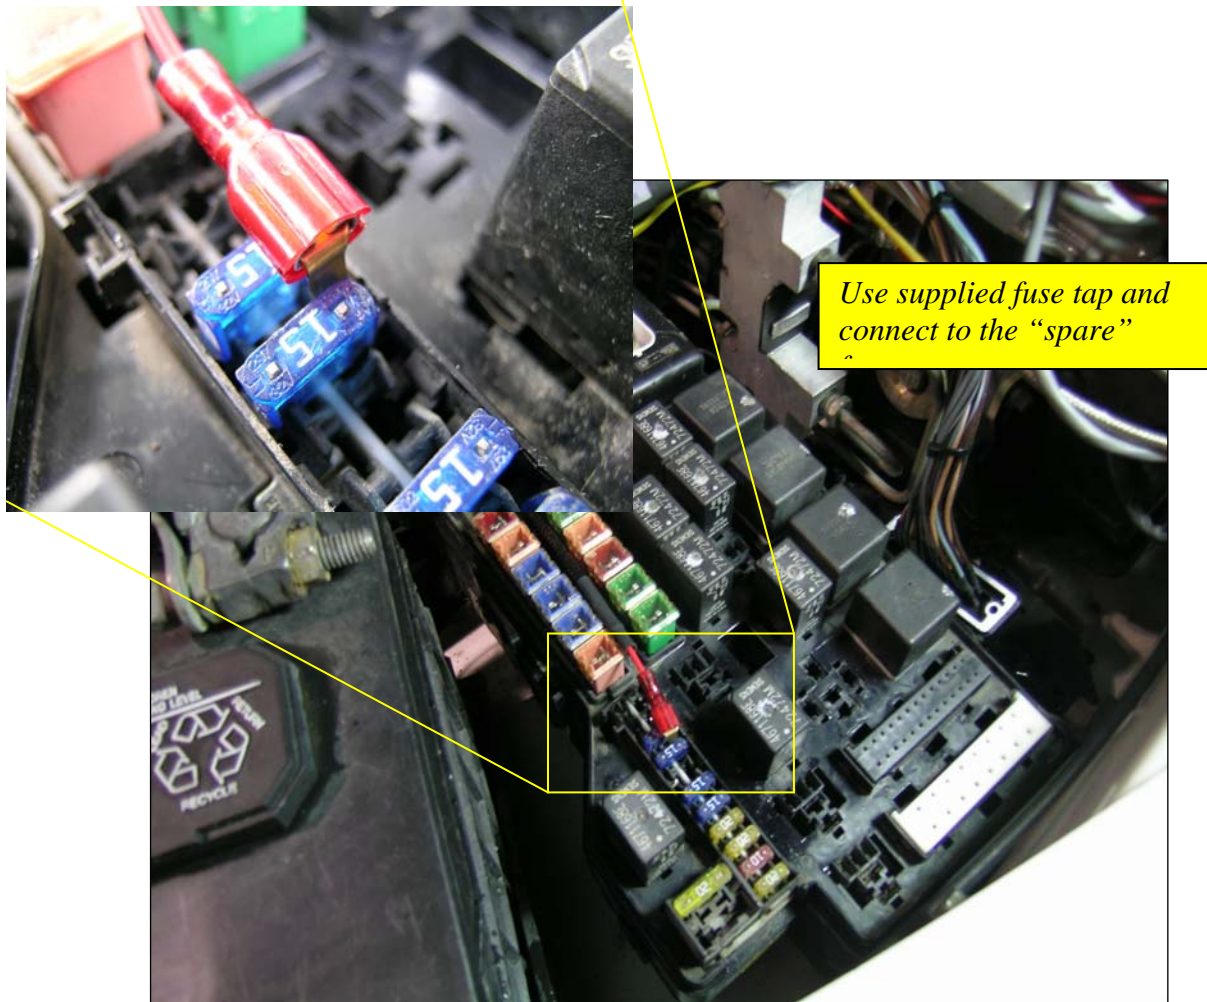

Figure 6 – Power wire attachment to spare fuse location in
3. Connect the power cable (See Figure 6) to the “spare” fuse (15 AMP) inside the fuse panel located on the driver’s side of the engine compartment. *Note: Not all trucks have a spare fuse location. If your truck does not have a spare fuse designation – Connect the fuse tap to any 15 Amp fuse such as the “Quad Light”.* Remove the fuse panel cover and the spare fuse and attach the supplied male spade fuse connector onto the terminal. Reinstall the stock fuse with connector back into the fuse panel (this may be a tight fit).